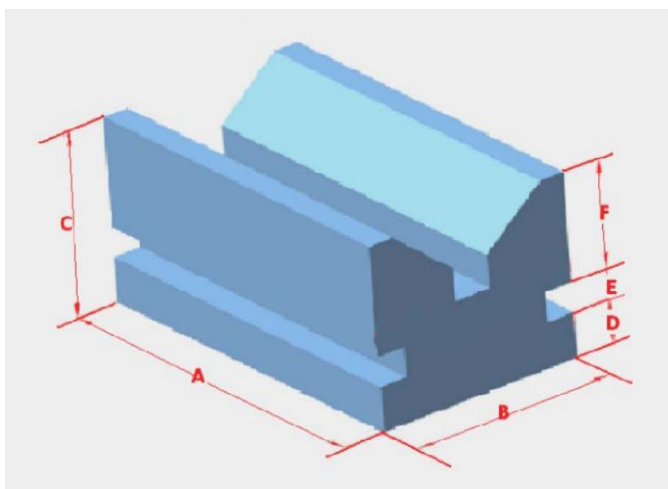

Fig.1.2: dimensions A to F to be measured on a V-Block.
**Task 1:** You will be given a V-Block similar to the one shown in Fig.1.1, use the steel rule to measure the dimensions shown in Fig. 1.2. Record your measurements in the table below.